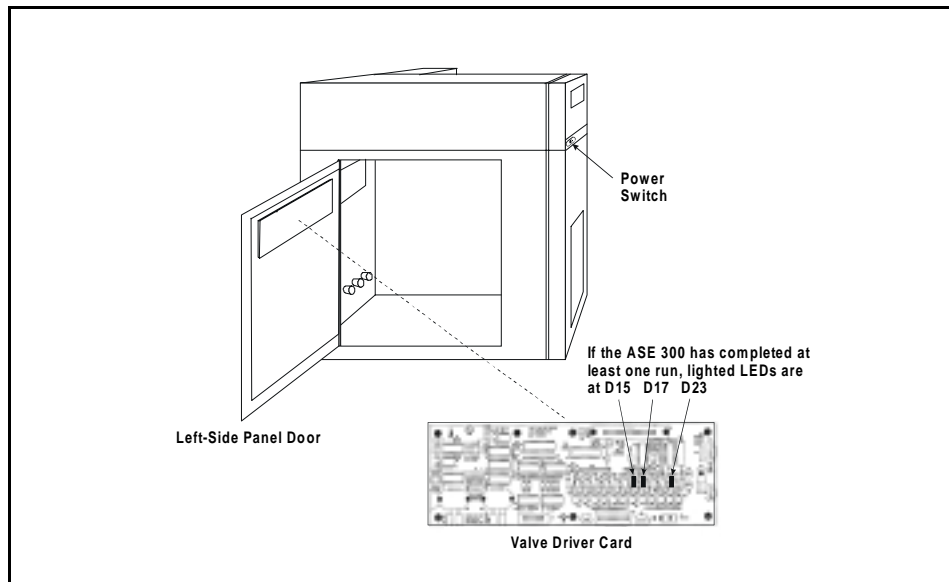

Figure 4-1. Valve Driver Card LEDs
2. Check the LEDs on the valve driver card (the PC board at the top of the left-side panel door). If the ASE 300 completed at least one run and is now idle, the LEDs at positions D15, D17, and D23 should be lighted (see Figure 4-1).